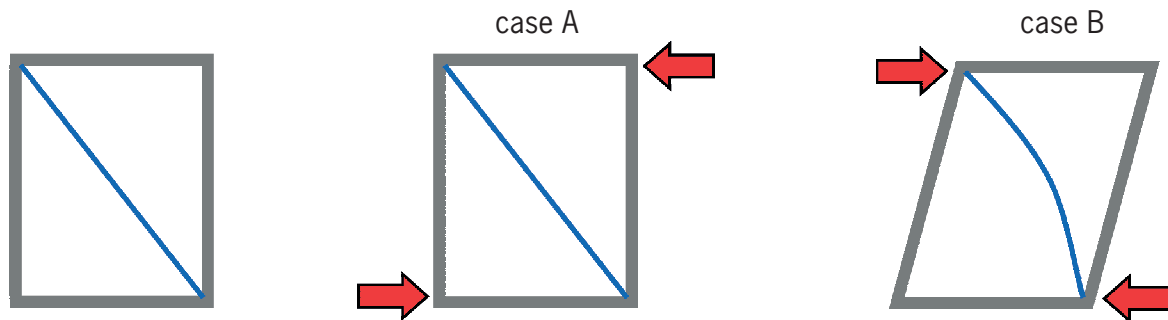
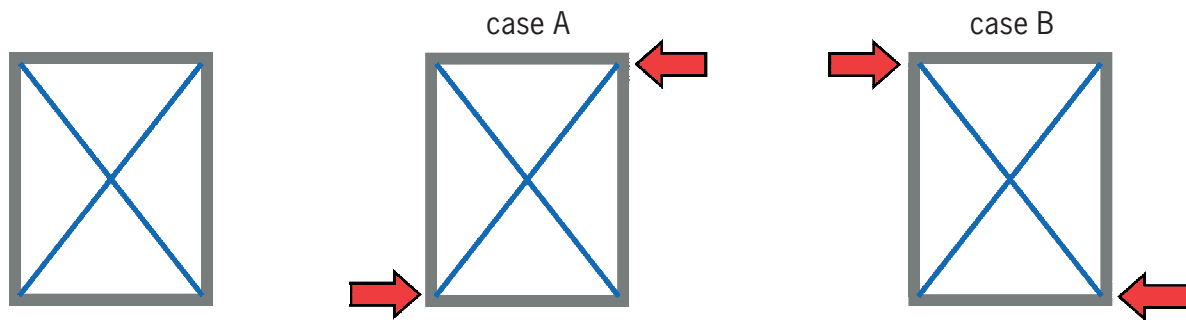

Figure 31: Simple triangulation of a frame
Figure 32: Cross-bracing a frame
3. Compare the frame design in Figure 31 with the one in Figure 32.